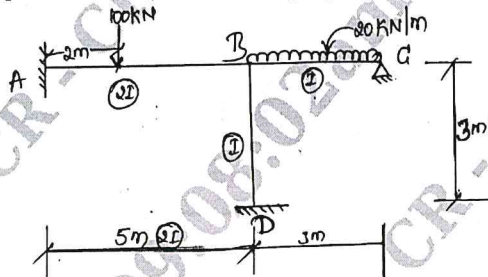

Fig.Q7
- 7 Analyze the rigid jointed plane frame shown in Fig.Q7 by stiffness method and draw BMD.